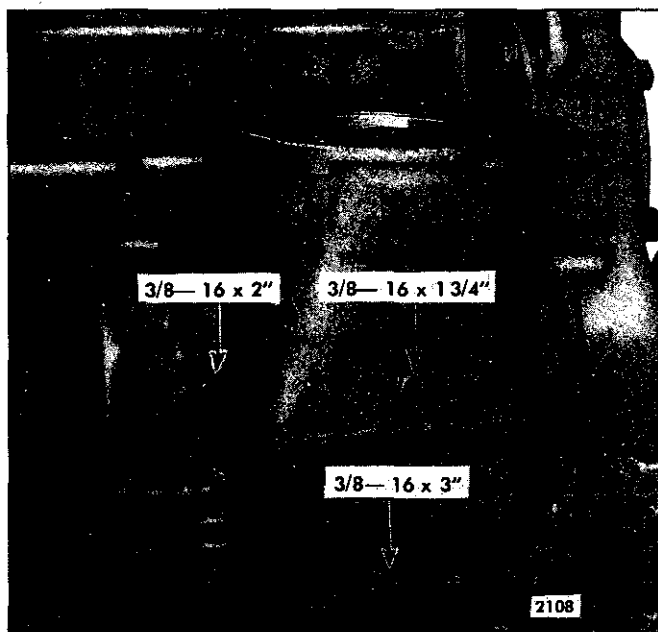

Fig. 3 – Location of Air Shutdown Housing Mounting Bolts (In-Line Engines)
- a. Install and finger tighten the six attaching bolts shown in Fig. 3.